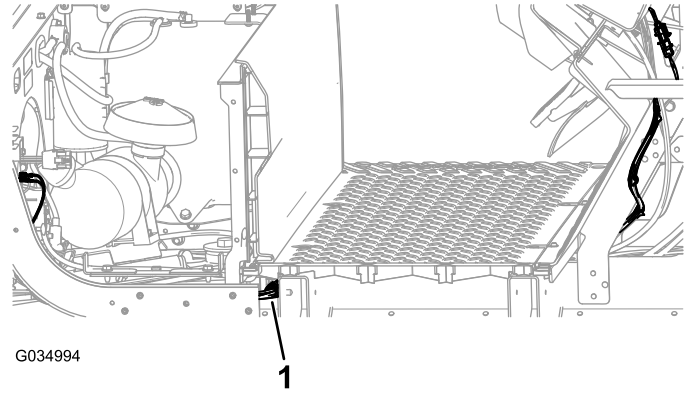

Figure 11
7. Using fish tape, route the options-power lead to the front of the machine, under the footboard and through the dash, and install cable ties as necessary (Figure 11).